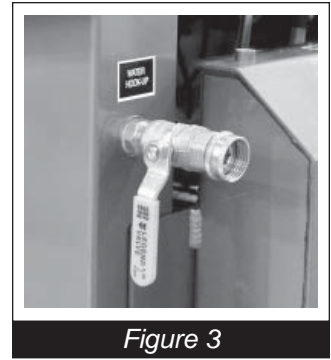

Figure 3
- For wet cutting, attach supply hose to Water Hook Up Valve (*Figure 3*).
- Open water valve then turn the Water Pump switch ON and the Blade Saver to WET. (Review Figures 3 & 4)